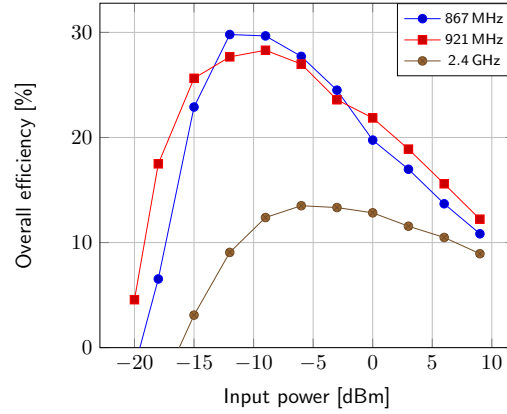

Figure 12: Overall efficiency (RF path and boost converter) with VBOOST = 3.5 V
- **VBOOST**: Measure the current and the voltage. Repeat the measurement a copious number of times to be sure to capture the current peaks. Figure 12 has been obtained by averaging over 100 measurements configured with a 100 ms integration time.